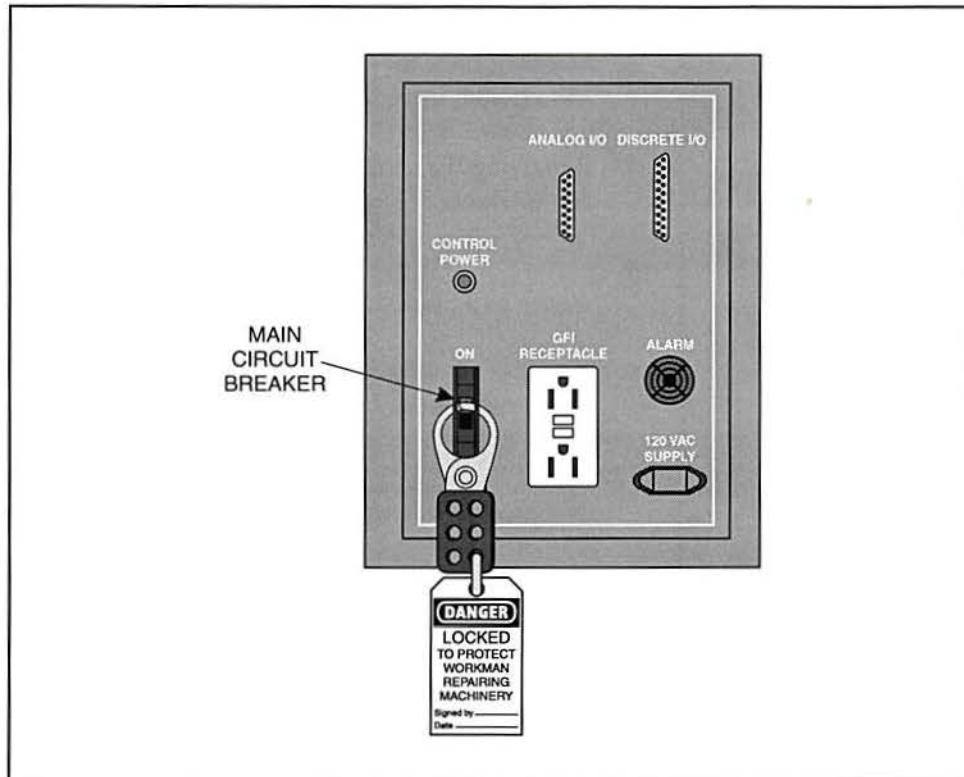

Figure 42. Padlock Installed on the Lockout Device
- F. Install the padlock in one of the open holes in the lockout device and close the padlock, as figure 42 shows.